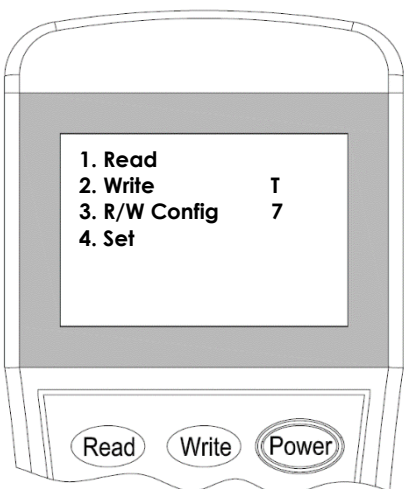
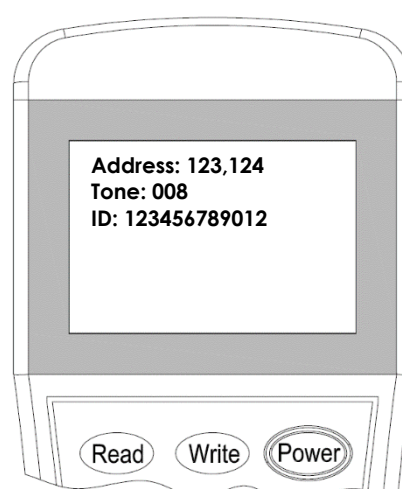

Figure 18
Figure 19
2. Switch-on the programmer, then press button "**Read**" or "**1**" to enter to **Read** mode (Figure 18). The programmer will display the configuration after few seconds. (Figure 19).